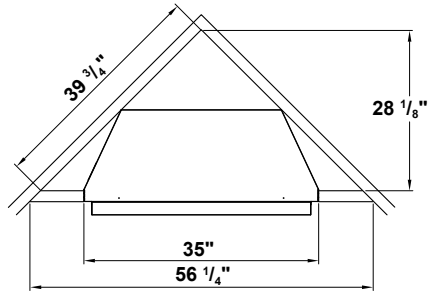

Figure 10 - Rough Opening for Corner Installation
1. Frame in rough opening. Use dimensions shown in Figure 8 for the rough opening. If installing in a corner, use dimensions shown in Figure 10 (page 13) for the rough opening. The height is 32 1/2", which is the same as the wall opening above (see Figure 9).